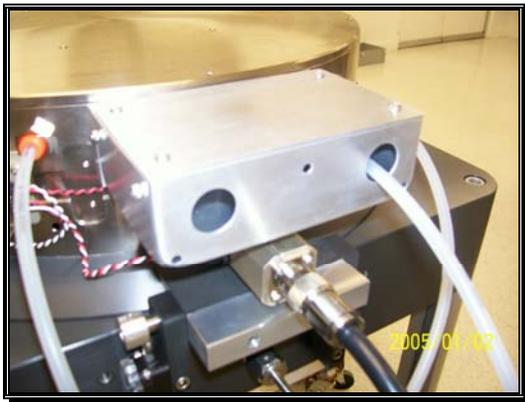

Figure 1
6. Disconnect gas lines entering Triode and plug open lines coming from gas cabinet. (Figure 1&2)